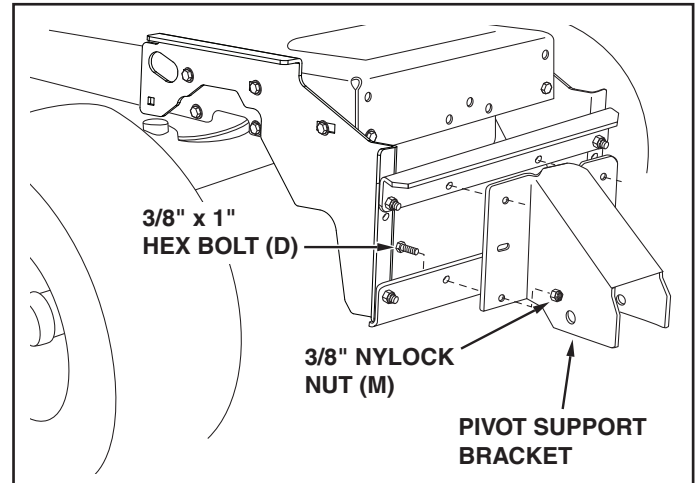

FIGURE 10
STEP 2: (SEE FIGURE 10)
- Assemble the pivot support bracket to the angle support brackets using four 3/8" x 1" hex bolts (D) and four 3/8" nylock nuts (M). **Do not tighten yet.**